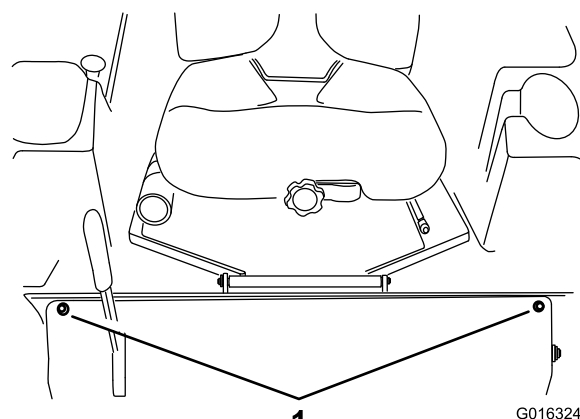

Figure 3
1. Remove and retain the 2 UNC bolts (Figure 3).